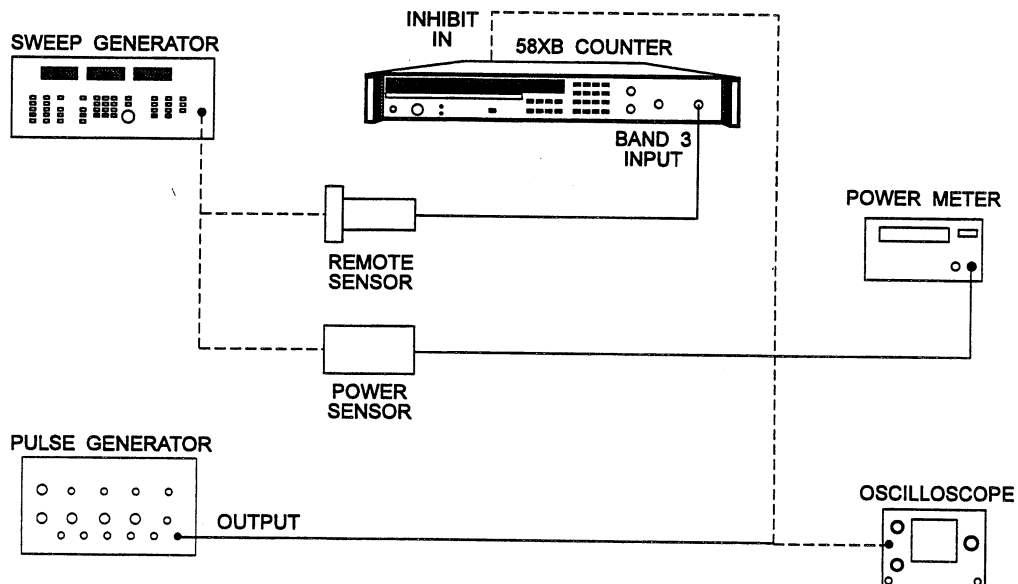

Figure 5-8. Band 3 Range and Sensitivity Test Setup (Model 588B Option 5804 Only).
1. Connect equipment as shown in Figure 5-8.